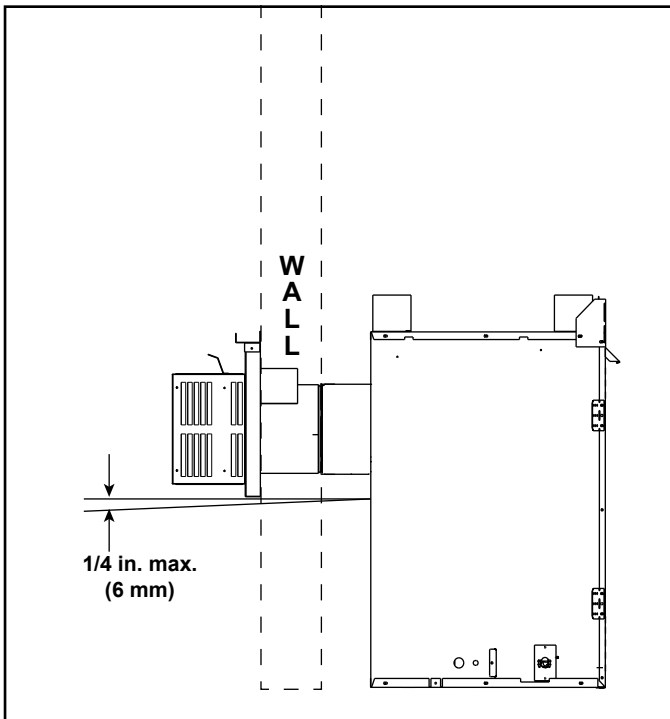
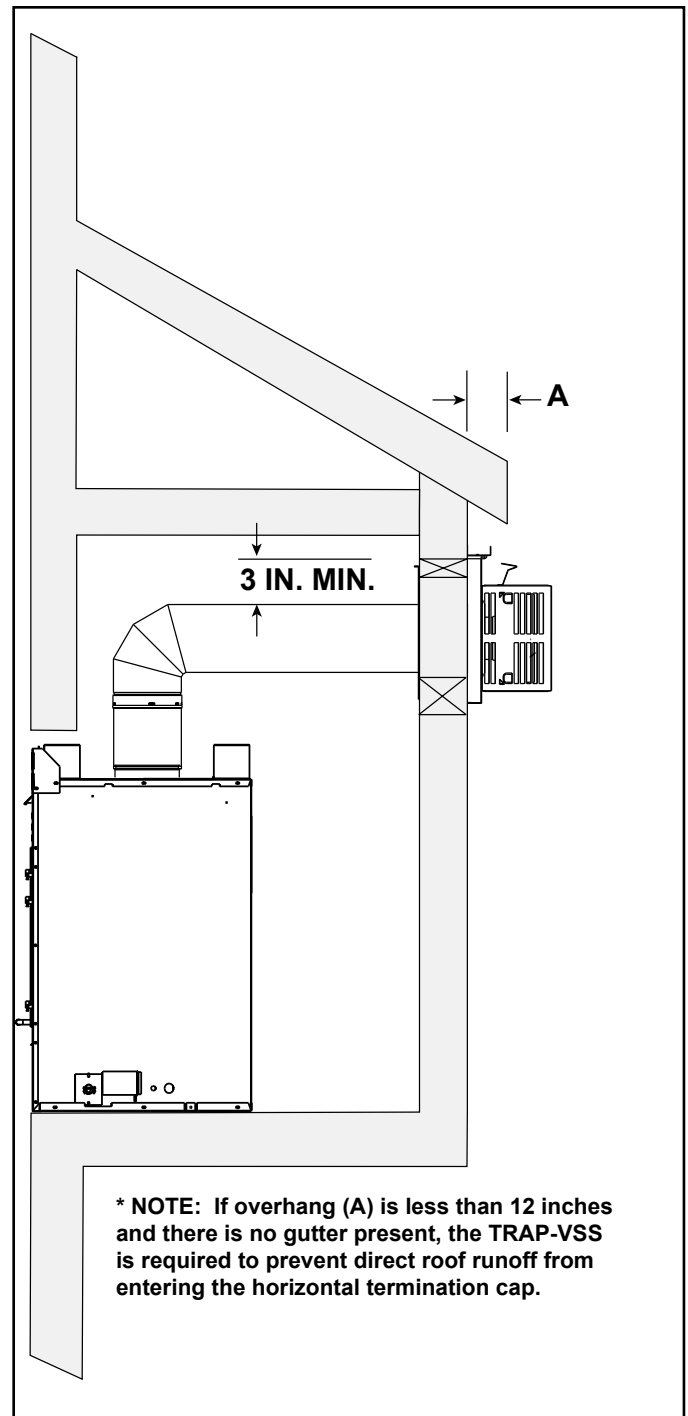

Figure 4.9 Water infiltration Prevention
Figure 4.10 Exterior Chase - Water infiltration Prevention
- Horizontal termination cap should have a 1/4 inch downward slant to allow any moisture in cap to be released. See Figure 4.9. See Figure 4.10 for additional water infiltration prevention information.